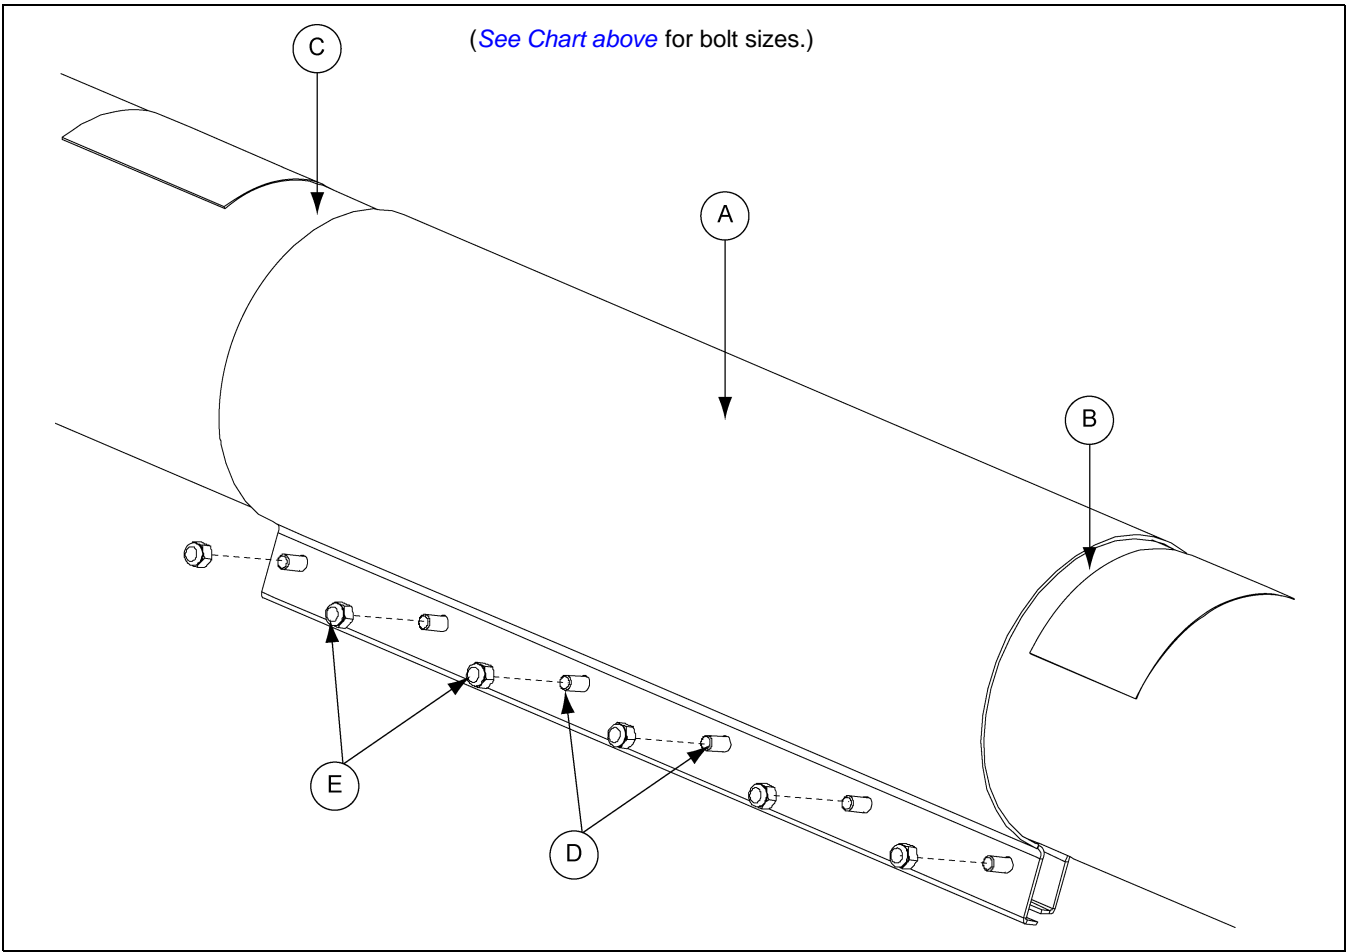

Figure 40
4. Slide the extension connecting band (A) over the two (2) sections of tube, making sure the connecting band is centered over the mated surfaces of the tubes. Tighten the connecting band down using the correct hex bolts (D) and nylock nuts (E). (See Chart below and Figure 40.)